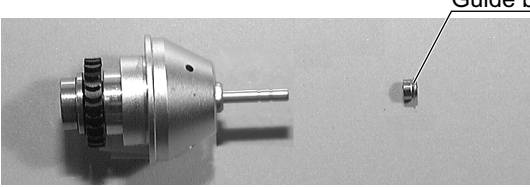

Fig.19
- (6) Set the longer one of the guides of the guide bush on the end of the rotor shaft first along the test bur. (Fig.19)